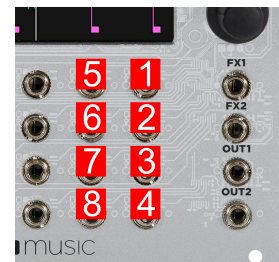

Figure 31: EXT Ports
- EXT1 through EXT8 – External CV input as shown in Figure 31: EXT Ports